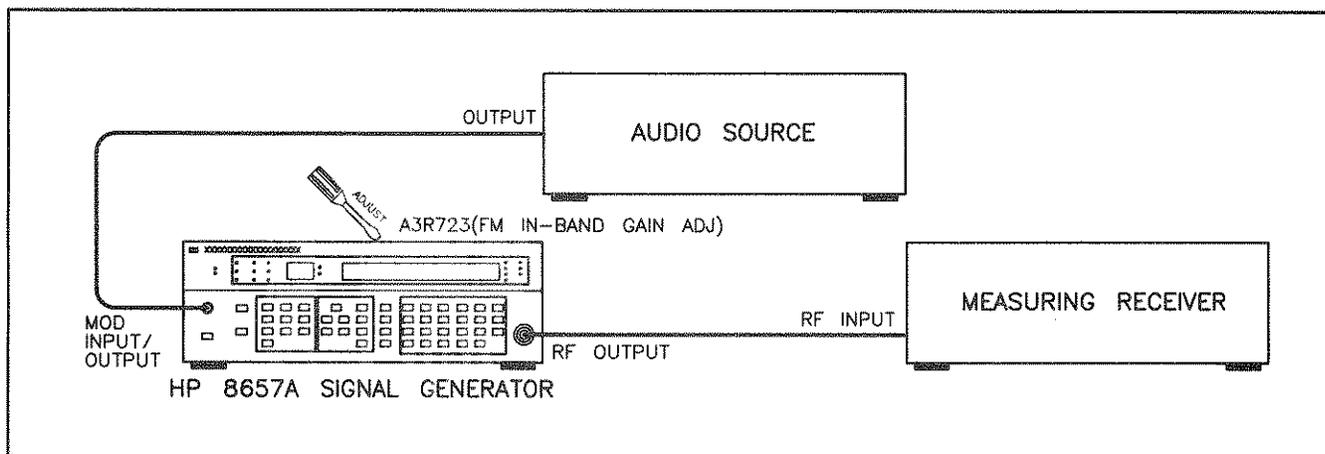

Figure 5-22. FM In-band Gain Adjustment Setup
4. Connect the Signal Generator RF OUTPUT to the measuring receiver INPUT, and the Signal Generator MOD INPUT/OUTPUT to the audio source OUTPUT as shown in Figure 5-22. The Signal Generator LO EXT and HI EXT LED's should be out.